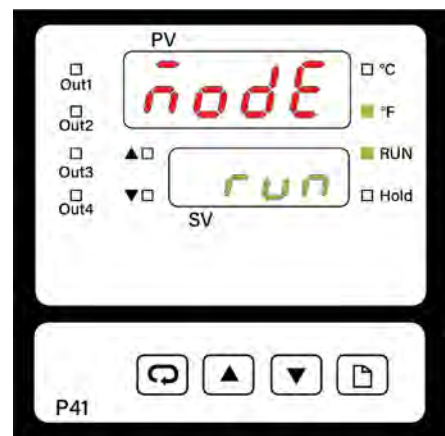

Figure 19
4. Press the  PAGE key until you see "mode" (*mode*) in the upper display. (See Figure 19).
5. Press the  UP or  DOWN keys to select "run" (*run*) in the lower display. **(See Figure 19).**
6. Press and hold the  PAGE key (for about 5 seconds) until you see a green light next to "run". The controller is now running the firing profile you selected. **(See Figure 19).**